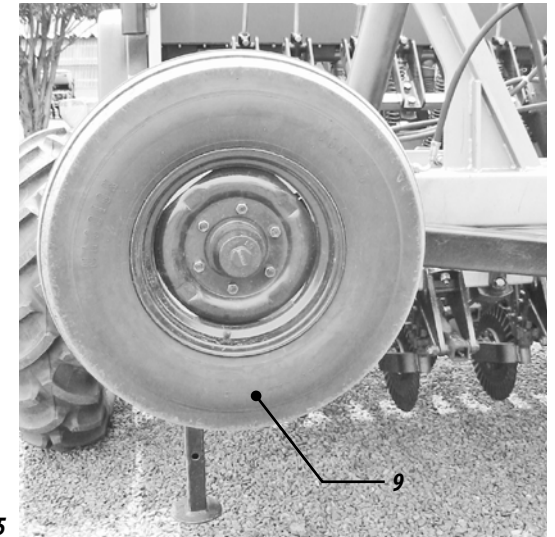

Figure 65
13- Operate the transport wheelsets (21) to lower the seed drill (key #1 on the panel), figure 65.